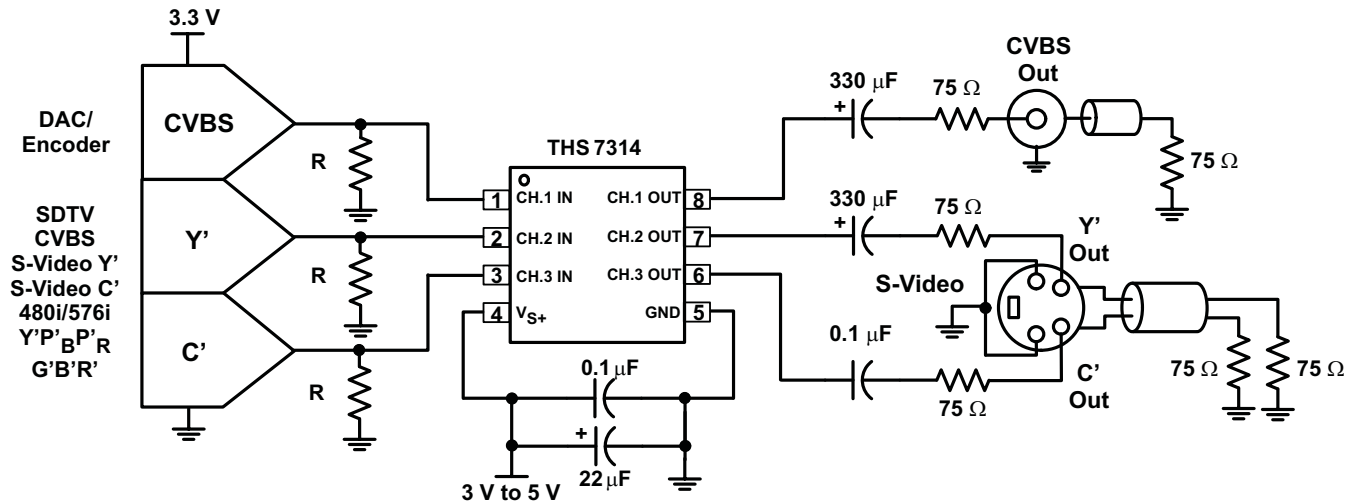

Figure 29. Typical SDTV CVBS/Y'/C' Inputs From DC-Coupled Encoder/DAC With AC-Coupled Line Driving
A typical application circuit using the THS7314 as a video buffer is shown in Figure 29. It shows a DAC (or encoder such as the THS8200) driving the three input channels of the THS7314. Although the S-Video Y'C' channels and the Composite video channel of a Standard Definition video (SD) system are shown, these channels can easily be the Y'PBPR' (sometimes labeled Y'U'V' or incorrectly labeled Y'CBCR') signals of a 480i or 576i system. These signals can also be G'B'R' (R'G'B') signals or other variations.